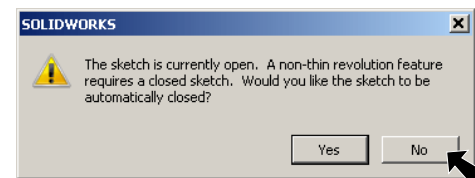

Fig. 5
Step 11. Click **No** to automatically close sketch, **Fig. 5**.